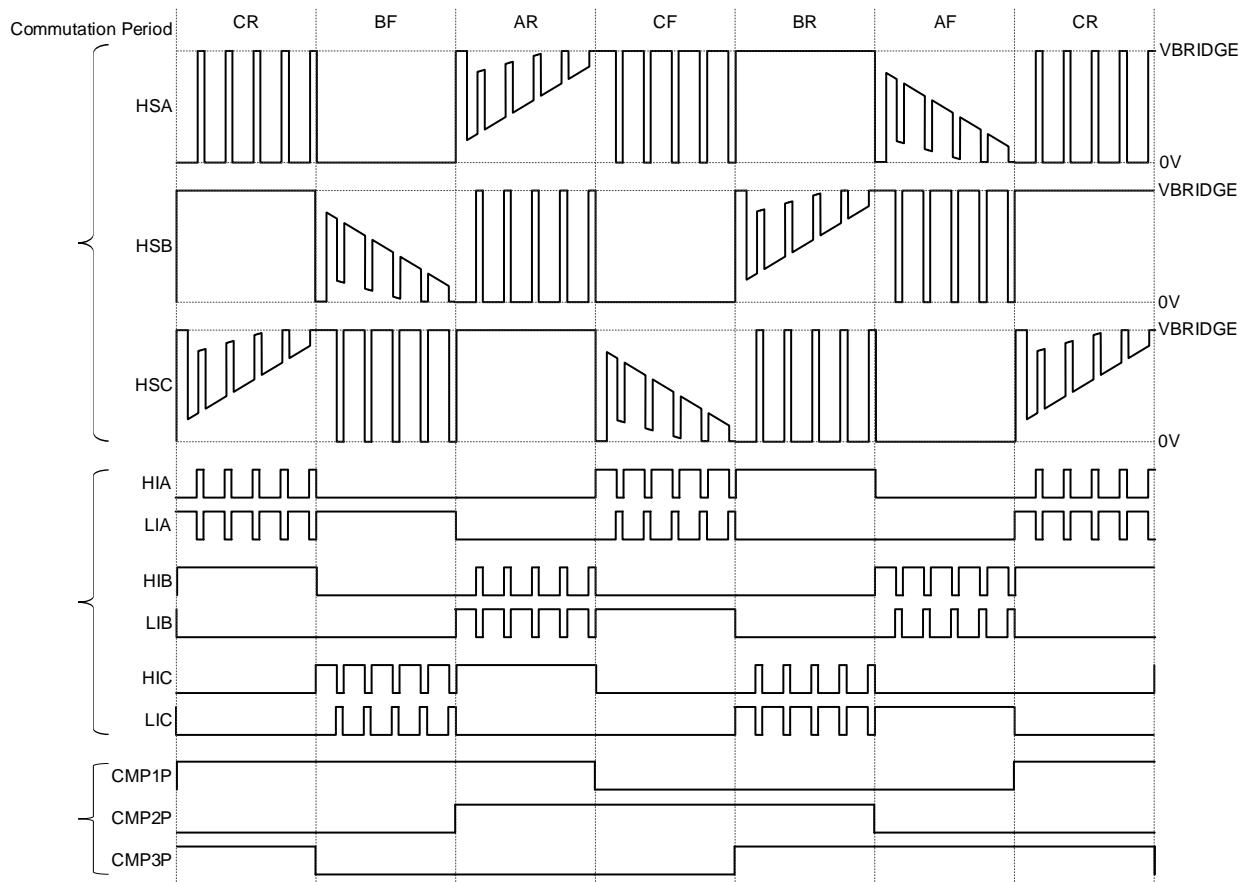

Figure 2-3 Operating Waveform Diagram – Hall Sensor Motor Drive by Using 3 Comparators
**Figure 2-3** shows an operating waveform diagram for hall sensor motor drive by using 3 comparators. The polarity change of the hall IC outputs (CMPzP ( $z = 1, 2, 3$ ) inputs) depend on the mounting position of the Hall sensor, so the pattern of the energized phase must be changed according to the relation between the rotor position and the polarity of the hall IC output.